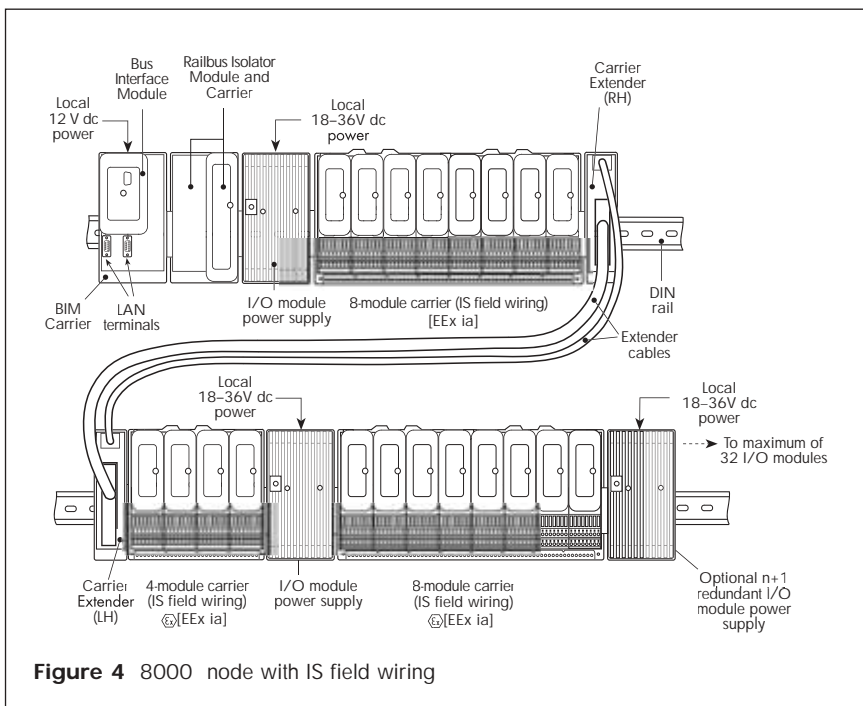

Figure 4 8000 node with IS field wiring
The 8000 Process I/O System is capable of supporting I/O modules with intrinsic safety (IS) field wiring, for connection to certified or 'simple apparatus' field devices in Division 1 or Zone 0 hazardous areas (see Figure 4). A range of I/O module types with IS field circuits for industry-standard DI, DO, AI and AO applications is supported.